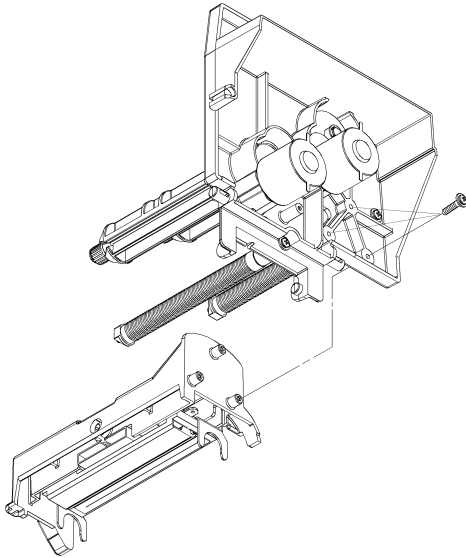

Figure 6-4. Print Assembly
2. Remove three printhead module screws, as shown in Figure 6-4.